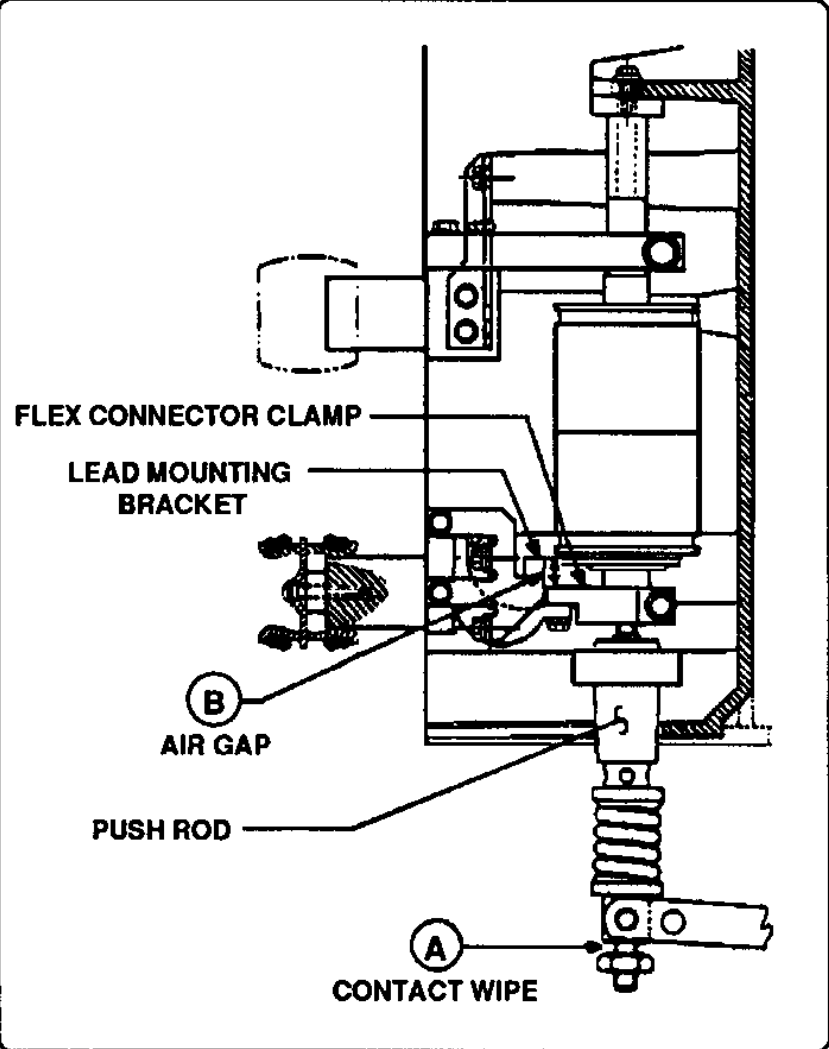

Fig. 5 - Contact Pressure
3. Contact Wipe (contact pressure) Check (See Fig. 5). The contact air gap and contact wipe is set at the factory. These parts should not be repositioned in the field unless a pushrod change is required to correct contact sequence as described elsewhere. Contact wipe is set at the factory at .093 minimum. Contact erosion and wear in mechanical parts will cause a reduction in contact wipe over the life of the breaker and a check should be made to insure that the wipe is not less than .020". The measurement is made as follows for the three poles:
4. Contact Air Gap Check (See Fig. 5). The contact air gap is set at the factory at the nominal dimension of .40. This value will normally increase as the contacts erode. A check of the contact air gap checks that the breaker does open fully and that the gap is sufficient to withstand the applied voltage. The measurement is made as follows for the three poles.
5. Contact Sequence Check (See Fig. 5). All three poles should touch within 2 millisecond at normal closing speeds. An oscilloscope, oscillograph or other timing method may be used to establish the 2 millisecond timing.